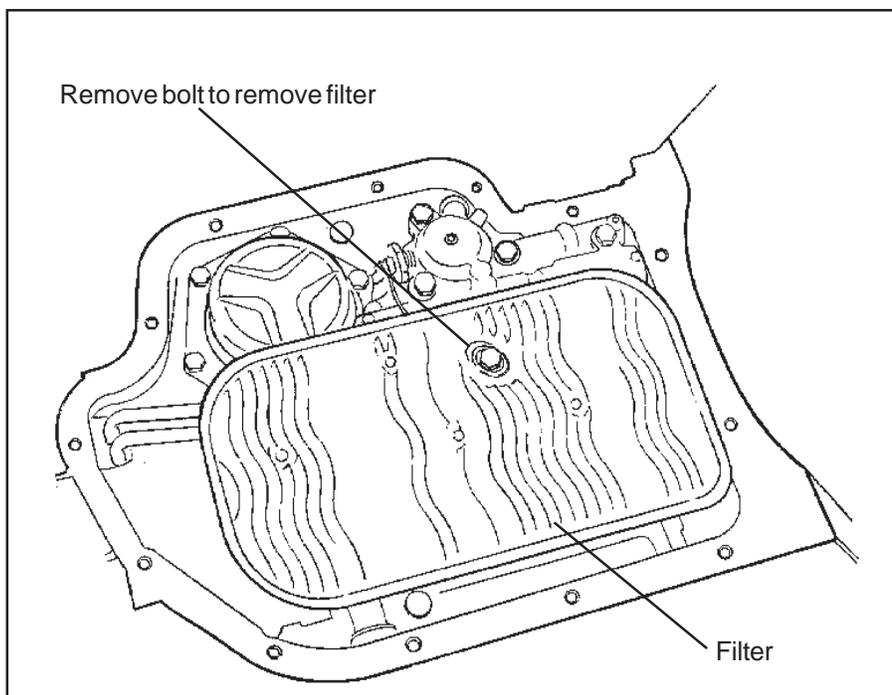

Figure 3
STEP 2. Oil filter removal (See Fig. 3): Remove the shoulder bolt holding the filter then pull the filter straight down. Some models also use a spacer between the filter and valve body. Watch out for oil splatter. If the oil pick-up tube did not come out with the filter, pull it out. Remove the O-ring from the bore in the case if it did not come out with the oil pick-up tube. Be careful not to scratch the case bore when removing the O-ring.